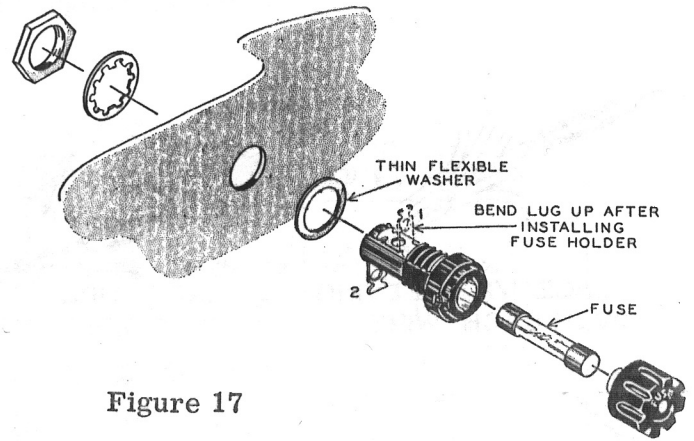

Figure 17
- (✓) At terminal strip LF, connect the red lead to lug 1 (S-2), the white lead to lug 2 (NS), the green lead to lug 3 (NS) and the black lead to lug 4 (S-2).
- (✓) Connect the red lead to switch SA, lug 1 (S-2), the green lead to pilot lamp socket PA, lug 2 (S-1), the white lead to switch SB, lug 1 (S-1) and the black lead to switch SB, lug 2 (NS).
- (✓) Using sleeving, connect a #20 bare wire approximately 6' long from the bus wire through the nearest amplifier balance control BC, lug 3 (S-1) to terminal strip LS, lug 1 (NS).
- (✓) Mount the fuse post assembly on the rear chassis support. See Figure 17. Do not overtighten the nut.